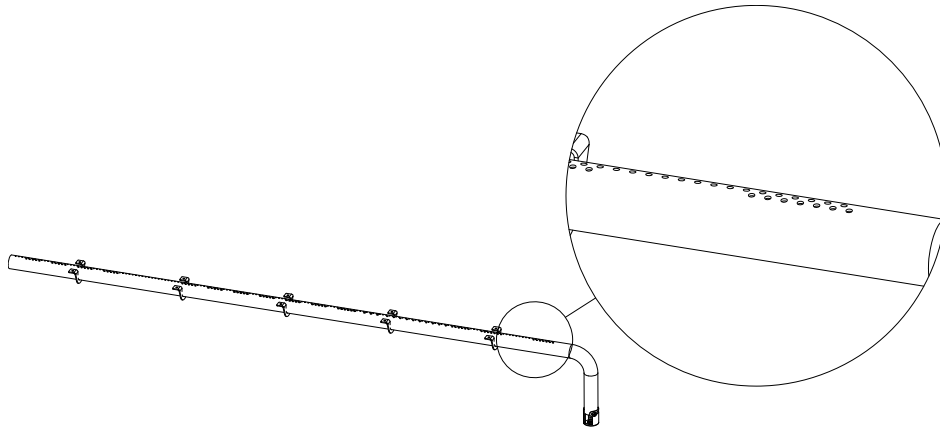

Figure 11.1 - Burner Ports
- Inspect and ensure the lighting of the main burner occurs within (4) seconds of the main gas valve opening. Check for faulty or incorrect wiring and correct or replace as necessary. Inspect primary air openings (burner ports) for blockage, especially near the pilot. Burner ports in burner tube are shown in Figure 11.1.